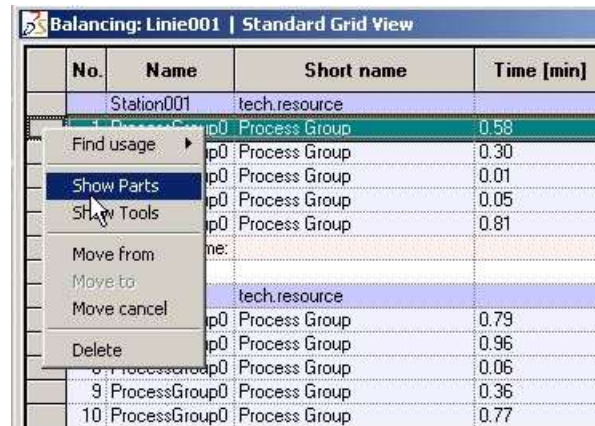

Figure 19: Contextual Menu Item – Show Parts
- If the menu item is activated in the WLB configuration, open the dialog via the contextual menu. *Please refer to the Figure 19*, the links of the process to parts are shown with the aid of the menu item **Show Parts**.